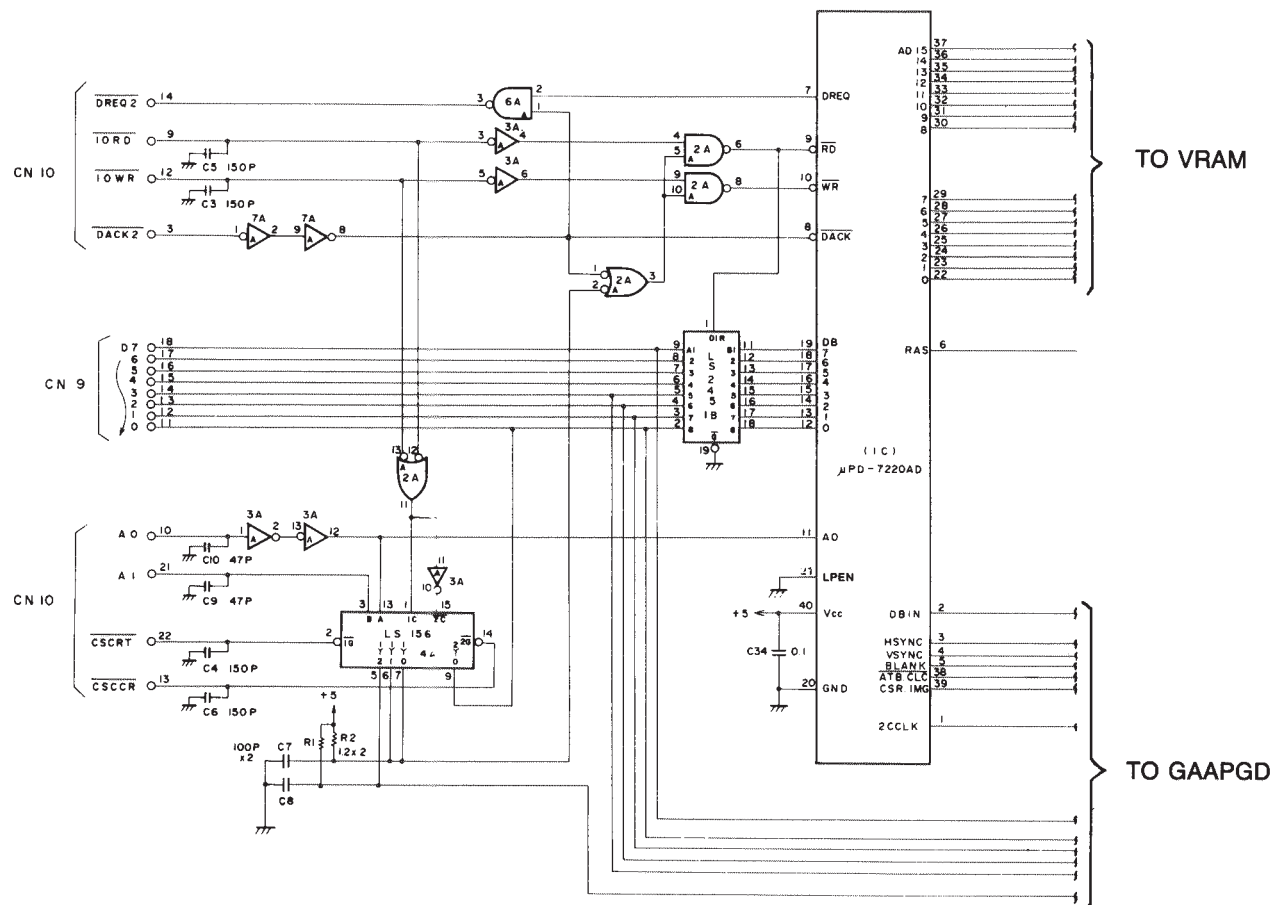

FIGURE 2-73. APX-IGGS SYSTEM INTERFACE CIRCUIT
2.4.2 APX-IGGS System Interface (Figures 2-73 through 2-75)